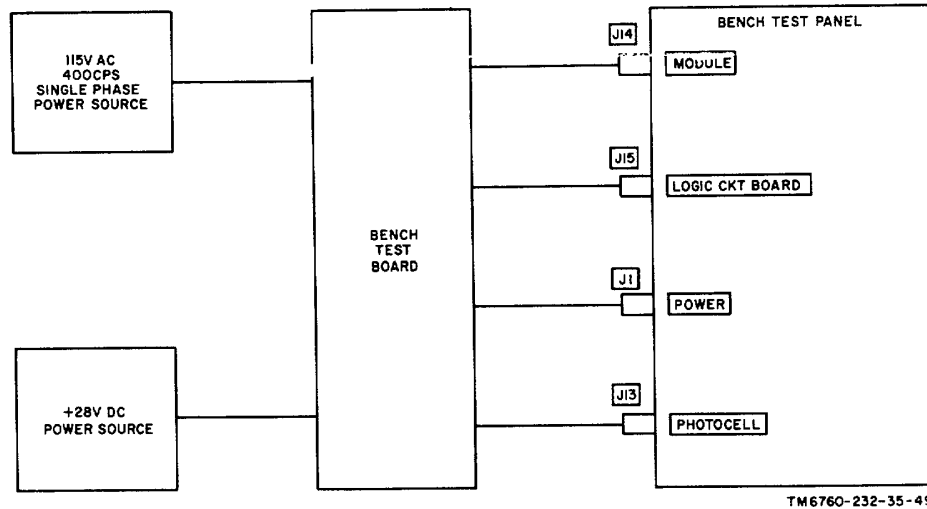

Figure 5-3. LOGIC TEST position, operational check setup.
- (1) Test board
- (2) Multimeter
- (3) Oscilloscope.
(4) 1K resistor.
(5) 120 ohm resistor.
- b. Test Connections and Conditions. Connect bench test set to test board as shown in figure 5-3.